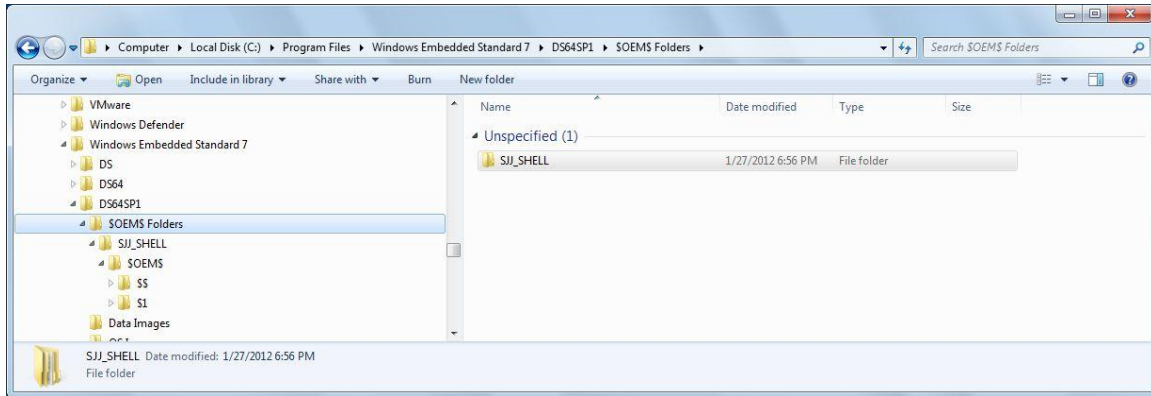

Figure 5-1 - SJJ Shell OEM Folders Directory Tree
4. Expand the folder in the distribution share and you will see the directory tree for SJJ Shell that is now part of the OEM folders, Figure 5-1.